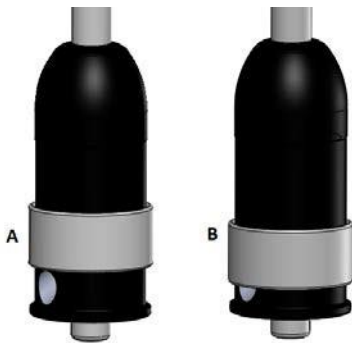

Figure 12
1. EasyTab 60 (ET60) is designed for controlling the amount of foam. After installing the ET60, push the Foam Ring to the position A ( Figure 12 ) until the opening is totally free of the ring.
4. When your problems are eliminated, and you can tap beers with 5-20 mm foam you now a system where you by moving the "Foam ring" (Figure 12 ) downwards hereby covering more and more of the opening in Figure 12 B, you can increase the amount of foam from nearly zero to 100%. Before moving the Foam Ring, dip the Nozzle in water. This will lubricate the O-ring fixing the Foam Ring, and make it easy to move the Foam Ring up and down.